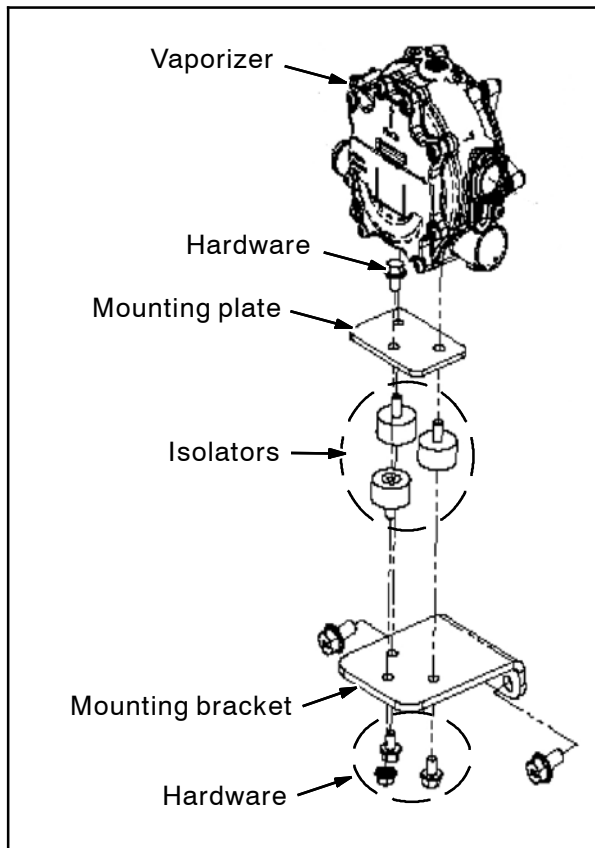

FIG. 11
4. Remove hardware securing the vaporizer / mounting plate to the mounting bracket. Set the hardware aside. (Fig. 11)
5. Firmly secure the mounting plate attached to the vaporizer into a bench vise. (Fig. 11)
7. Remove the mounting plate / vaporizer from the bench vise and remove the mounting plate from the vaporizer. Set the mounting plate, isolators, and hardware aside. (Fig. 11)
- Install the mounting plate / isolators onto the vaporizer (1). (Fig. 11)
- Install the vaporizer (1) / mounting plate onto the mounting bracket. (Fig. 11)